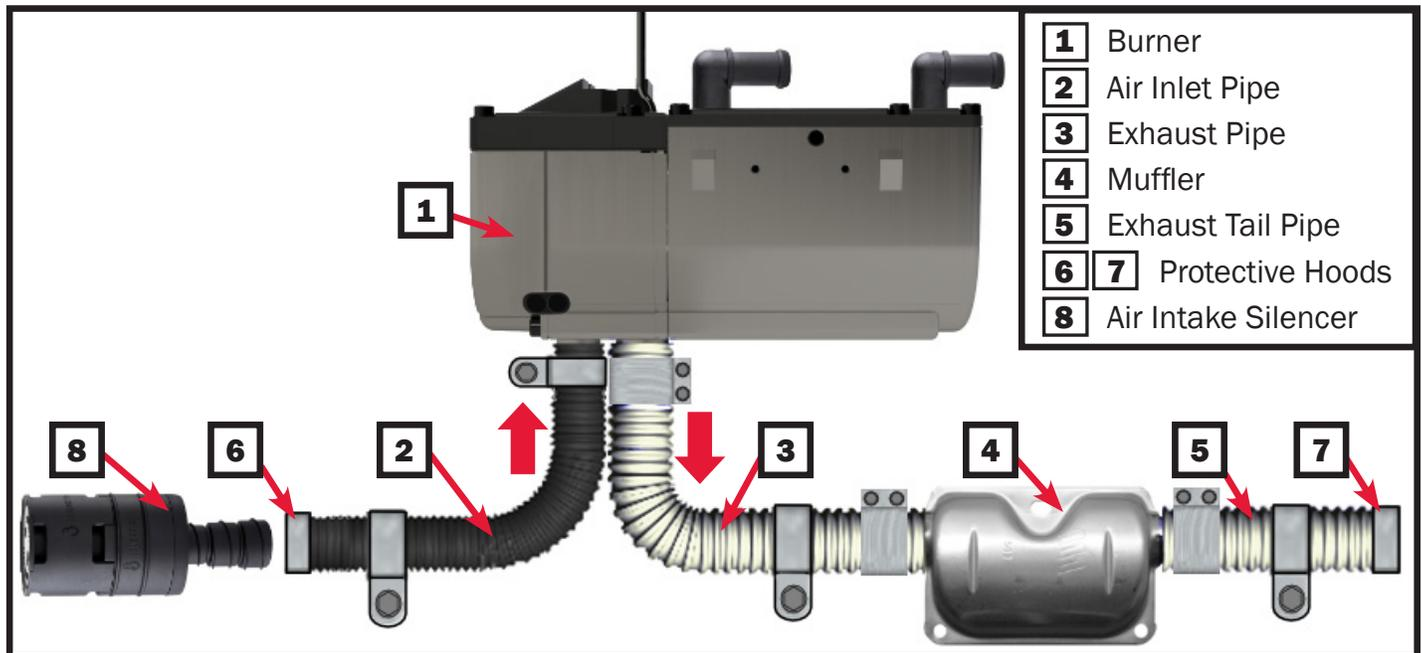

Figure 24.
- Installation of air intake and exhaust system is shown in Figure 24.